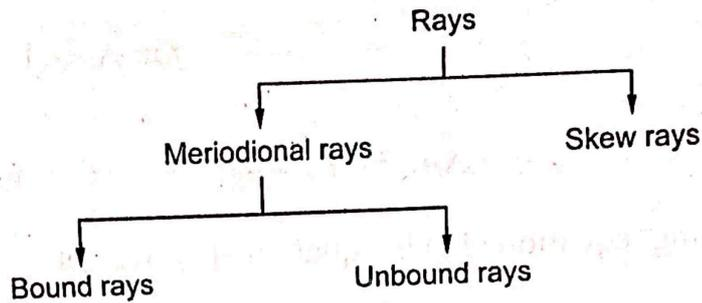

Fig 1.12 Types of rays
(1) Types of Rays
- The light ray which is *passing* through the fiber is classified as shown in Fig 1.12.